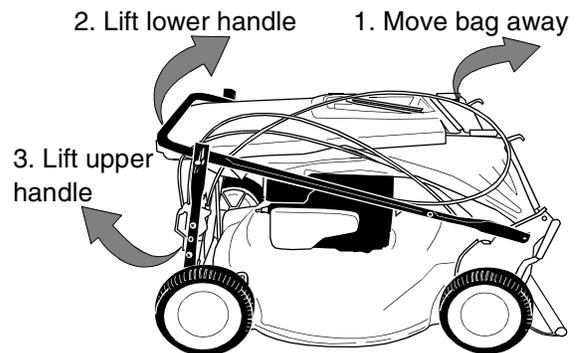
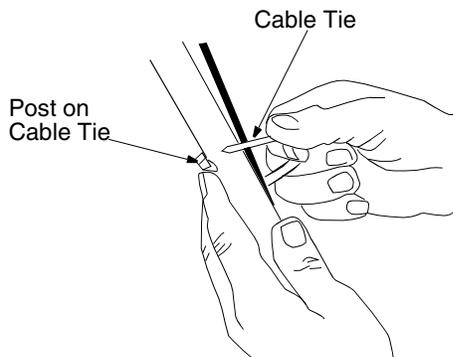

Figure 2
Figure 5
- Remove grass bag from the unit and set it out of the way. See Figure 2 (step 1).
- Raise the lower handle in the direction shown in Figure 2 (step 2) till it snaps into place.
- Raise the upper handle in the direction shown in Figure 2 (step 3). Tighten the wing nuts which are already on the handle. See Figure 5.
- Insert post of cable ties that are on lower handle into the holes provided on the lower handle. The holes may be on the inside or outside. Pull cable ties tight and cut off the extra. See Figure 5 below.